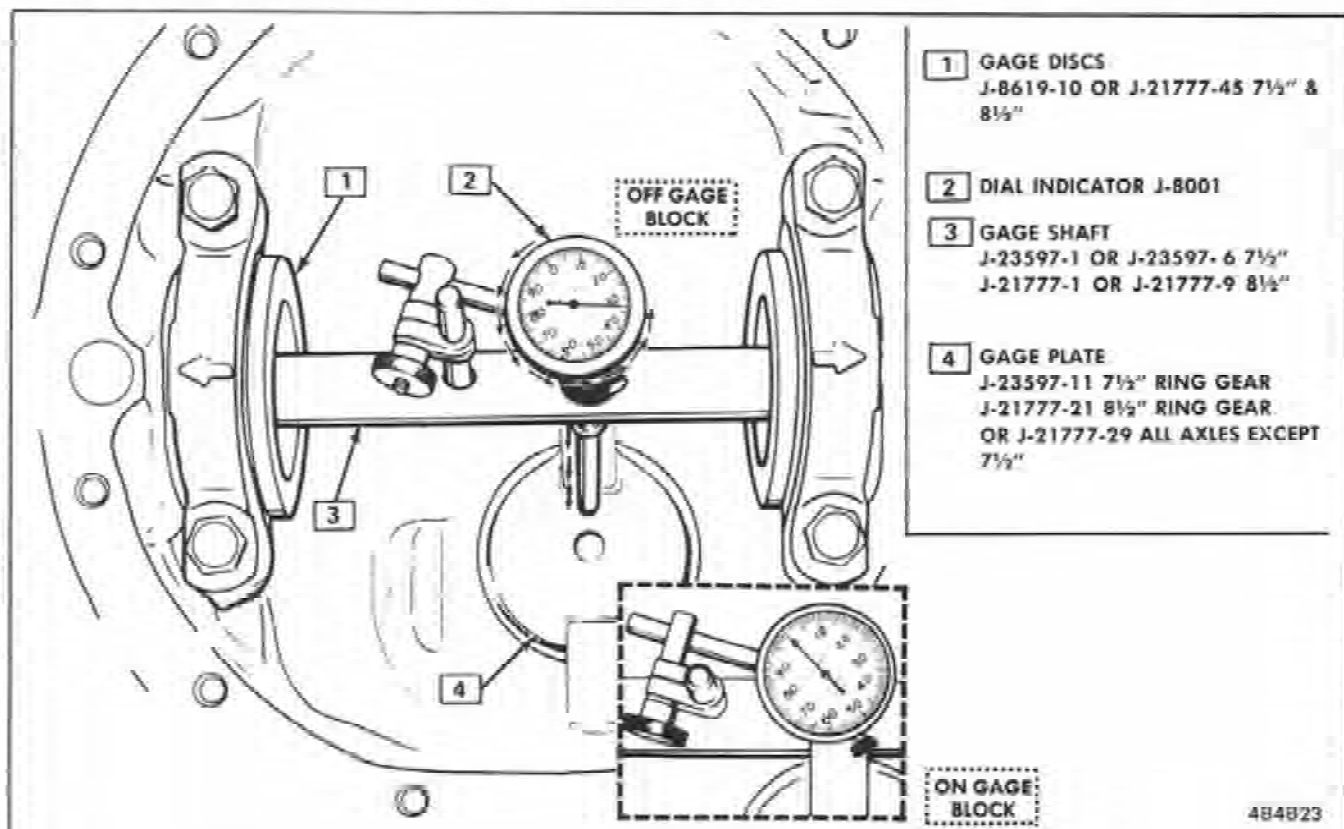

Fig. 23 Checking Pinion Depth
6. Install the correct Discs on the Gage Shaft, see Fig. 23.
7. Position the Gage Shaft assembly in the carrier so that the Dial Indicator rod is centered on the gaging area of the Gage Block, and the Discs seated fully in the side bearing bores. Install side bearing caps and tighten bolts to 75 N·m (55 lbs. ft.), see Fig. 23. Use Dial Indicator J-8001 or an equivalent indicator reading from 0 mm to 2.5 mm (0 in. to .100 in.).
11. Record dial reading at pointer position. Example: If pointer moved counterclockwise 1.70 mm (.067 in.) to a dial reading of .84 mm (.033 in.), as shown in Fig. 23, this indicates a shim thickness of .84 mm (.033 in.) except as follows: